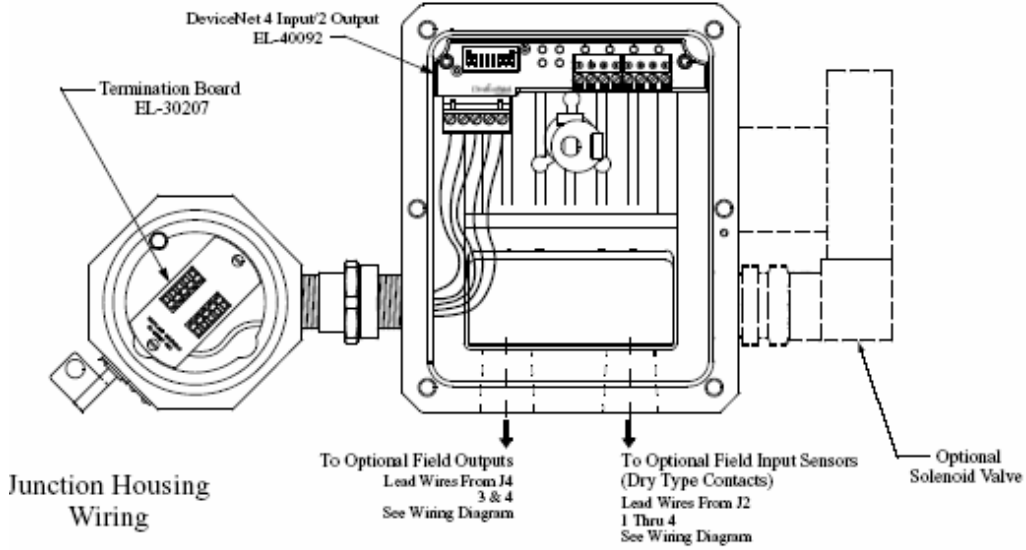

Figure 6
1. Wiring options for 7604, 7644 and 7679 are shown in Figures 6 and 7 below.
3. Unit is now ready for automatic operation. If any assistance is required, please call Westlock Controls at (201) 794-7650.